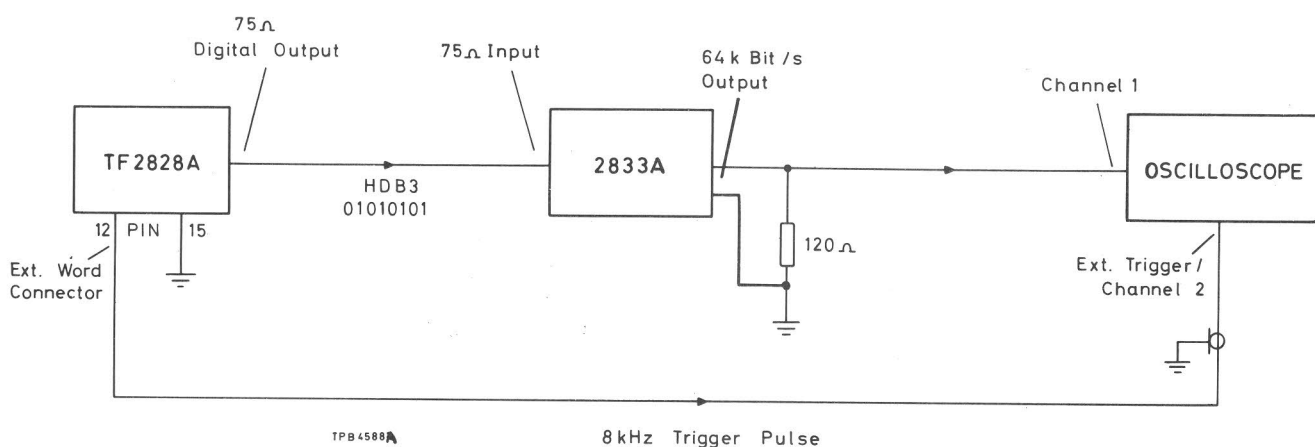

Fig. 4 Checking the 64 kbit/s output
- (7) Connect the equipment as shown in Fig. 4.